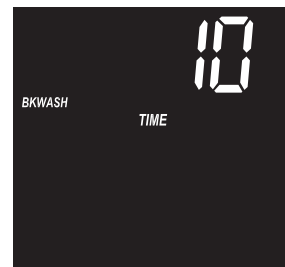

FIG. 29
2. Once in this display, press the SET button three times and the "Backwash Time" screen (Figure 29) is displayed.